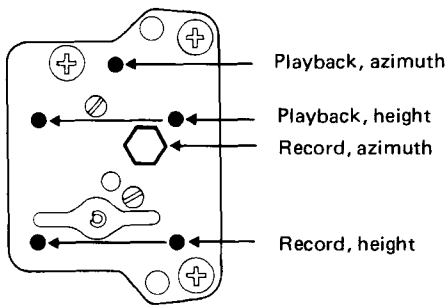

Figure 3 Adjustments for the heads
- Press the Play button. Adjust the playback azimuth screws shown in Figure 3 to obtain maximum reading on each channel.
- Press the Record button and turn the two record head height screws shown in Figure 3 by equal amounts (the same number of degrees) to obtain the maximum reading on both channels of the OUTPUT sockets, or the best compromise.